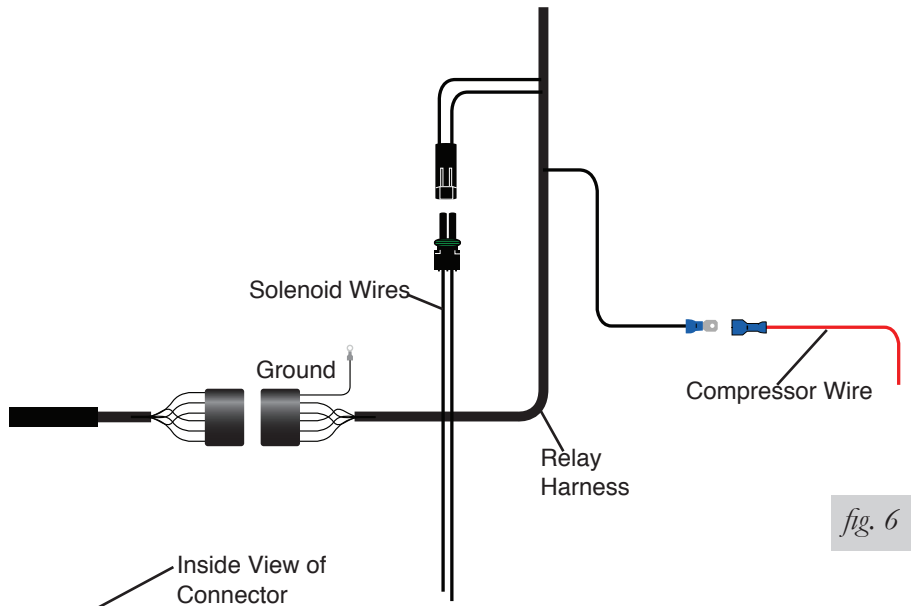

fig. 6
- Connect single terminal connectors to connect the black compressor wire to the relay wire (fig. 6).
- Connect the double terminal connector from the solenoid to the double terminal connector relay wires (fig. 6).